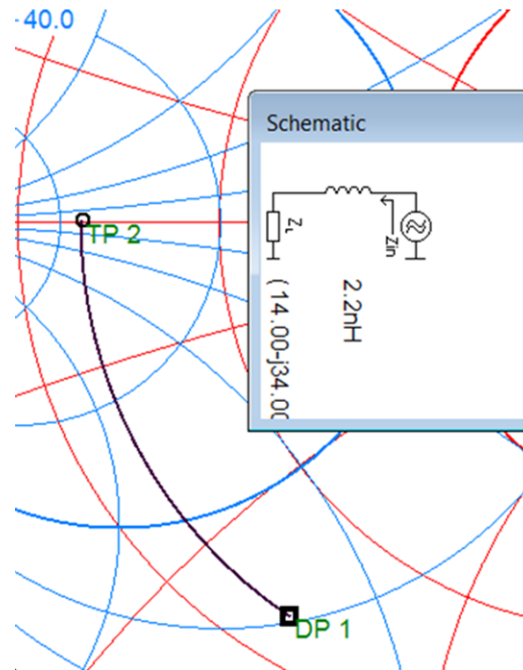

Figure 16. Matching the High-Band With an Ideal Value of L_{HIGH} : 2.2 nH and C_{HIGH} : NC
- L_{HIGH} : 2.2 nH and C_{HIGH} : NC; see Figure 16